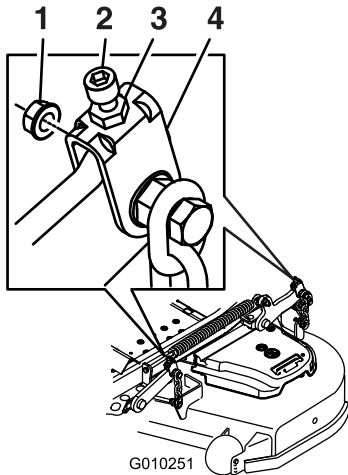

Figure 115
10. Fine-tune the adjustment nut on the front deck-lift assembly by turning it (Figure 115).
16. Fine tune the screw adjuster by turning it to get 8.3 mm (3-1/4 inches) height (Figure 115).